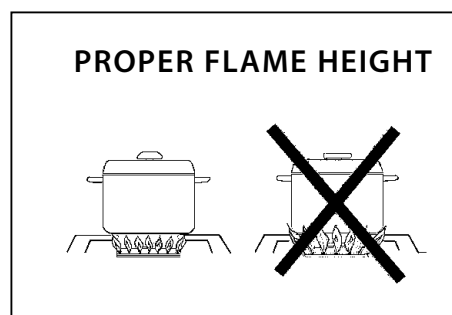

Fig. 34
- For safety reasons the flame must never extend beyond the bottom of the cooking utensil. Never allow flames to curl up the side of the pan (see Fig. 34).